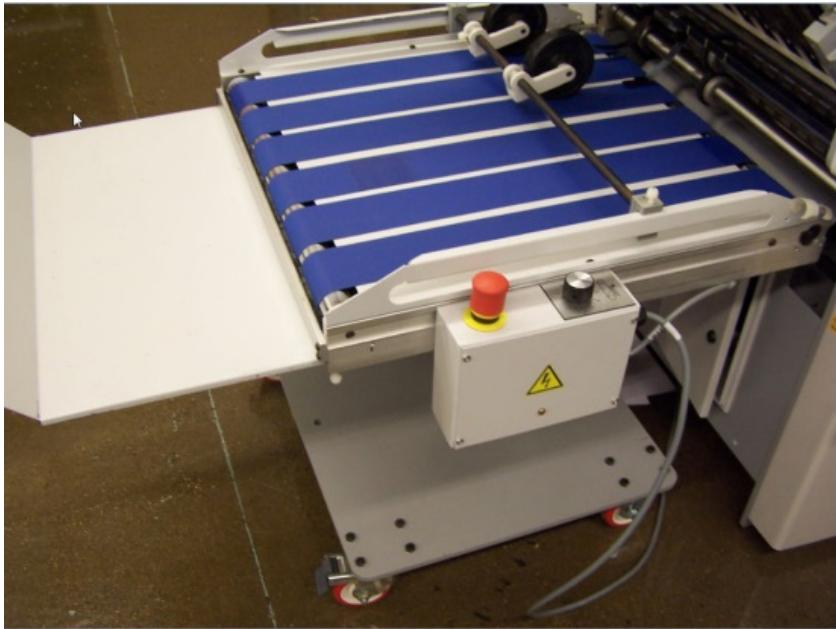

Figure 14
An infinite speed range between high and low is set by turning a control knob. (See figure 14). The speed control knob is the black knob on the right.
1. The emergency stop buttons are large red mushroom shaped buttons. They are push-pull style. Press to stop. Pull to release. There is one on the HMI enclosure next to the HMI screen (for the Knife Unit) and one on the main electrical control enclosure to the left of the touchscreen. There is a second on the stacker. It is to the left of the speed control knob. (See figure 14). The stacker will only stop the main unit if it is connected to the main electrical box with plug 2x2 inserted into receptacle 1x2 in the side of the control box.